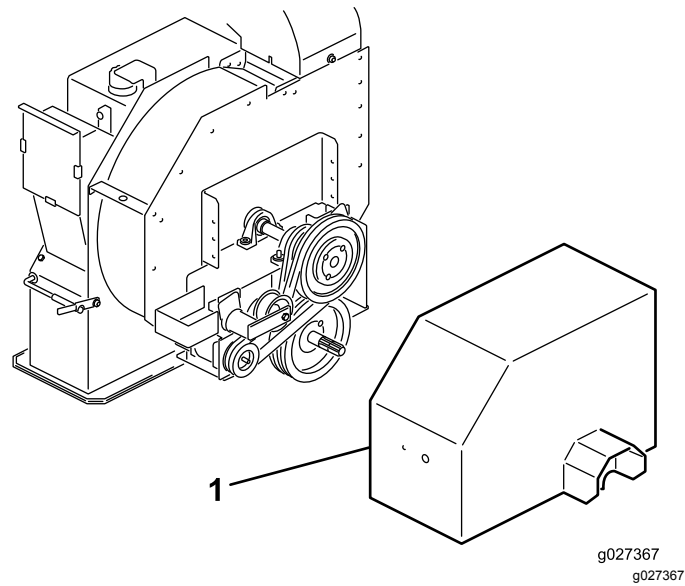

Figure 12
1. Remove the drive shield from over the pulley assemblies (Figure 12).
- Loosen the bolts and nuts securing the drive shield to the impeller housing (Figure 12) and remove the shield.
- On back side of the frame, loosen the bolt securing the belt tensioner to the frame (Figure 12).